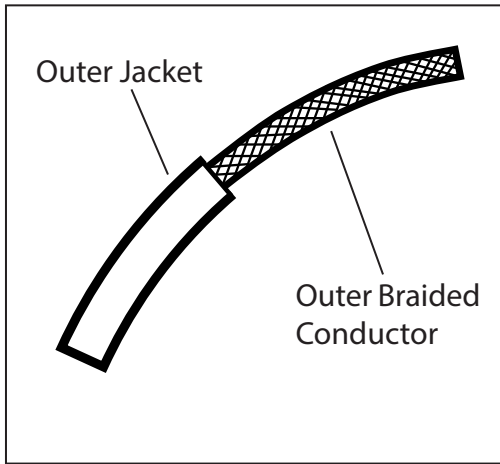

Fig. 1
1. Shut off power to the outlet box (A).
3. Determine the height at which each pendant is to be hung. Use the screwdriver (B) to loosen the set screw (C). Feed the power cords (D) through the bushings (E) on the canopy (F). Adjust the cord (D) to the desired length. Tighten the set screw to set.
4. Connect the fixture wires to the lever nuts (G) by pulling up on the lever for an empty slot (Fig. 1), inserting the wire, and pushing the lever back down to lock. The inner stranded conductor (H) and the outer braided conductor (J) on each cord (D) must be connected to separate lever nuts, as shown (Fig. 2). Reserve extra cords (D) and lever nuts (G) in the canopy (F). If shortening of the cords is necessary refer to Appendix A.
5. Attach cross bar (L) to the outlet box (A), secure with outlet box screws (M).
- a. Connect the LED driver's (K) live wire (black) to the live outlet box wire.
7. Attach canopy (F) to nipple (N), secure with washer and finial (P).
1. Make a 1" slice along the length of the cord's outer jacket (Fig. 1). **CAUTION: Do not cut through the outer braided conductor.**
2. Carefully strip the outer jacket of the cord and keep the outer braided conductors intact (Fig. 1).